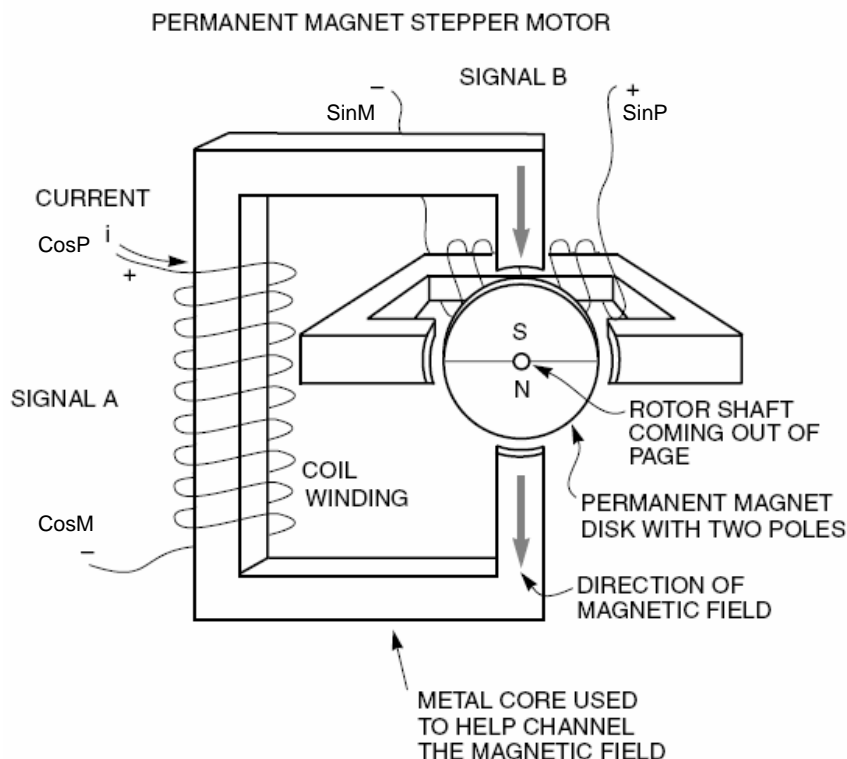

Figure 4. Permanent Magnet Stepper Motor
Stepper motors come in a variety of different sizes and shapes, and some of their components and internal arrangements may vary. The SSD module was designed to work primarily with small, permanent magnet stepper motors. These motors may weigh a few ounces and can sink current on the order of tens of milliamps. Some stepper motors have four contact pins, two for each coil, where a signal can be applied to the motor to induce rotation of the rotor shaft. Individual signals can be applied to each contact pin (such as CosP, CosM, SinP, and SinM from the MCU pins), but the effective signal created across one entire coil is most important (such as SIGNAL A or B, see Figure 4). The effective signals applied to both coils are important because the sequence of these signals must work together in a fashion that produces rotation. Uncoordinated or misaligned signals will likely produce ineffective vibration or random rotation. Figure 4 shows some of the internal components of this type of stepper motor.
2. As this change in electrical current occurs, a magnetic field develops within the coil (see Figure 4). The metallic core, which passes through the coil windings, channels the magnetic field toward the permanent magnet.